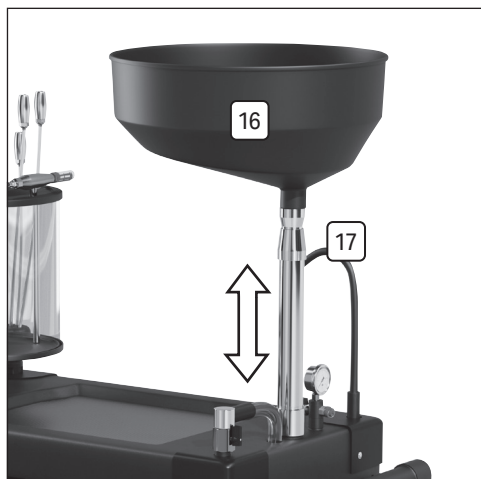

Fig.4
7.1 Collecting Waste Oil by Gravity (Fig.4)